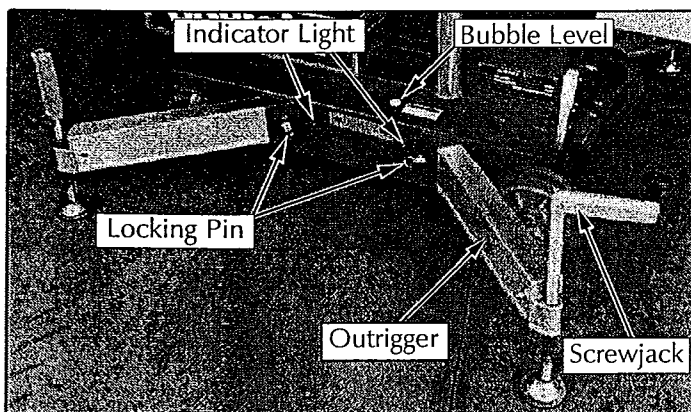

Figure 3-2: Installing Outriggers
2. Insert each into outrigger socket in base (fig. 3-2).
4. Repeat the above steps for all other outriggers. Make sure all four (4) locking pins are engaged.
5. Level the base, centering the bubble in the orbit level on the base by adjusting the screwjacks at the end of each outrigger (fig. 3-2). **DO NOT** release the tension on an outrigger, by turning counterclockwise, to level base.
6. **All four (4) screwjack pads must be in solid contact with a firm surface and each outrigger indicator light must be lit before the platform is elevated.**